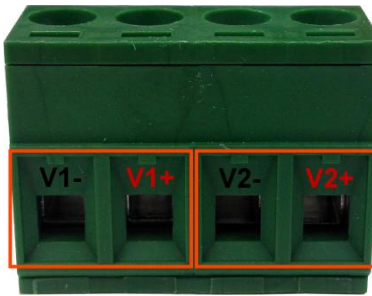

Figure 2.7.1
- Insert the positive and negative wires into the PWR1 (V1+, V1-) and PWR2 (V2+, V2-) contacts on the terminal block connector as shown below in *Figure 2.7.1*